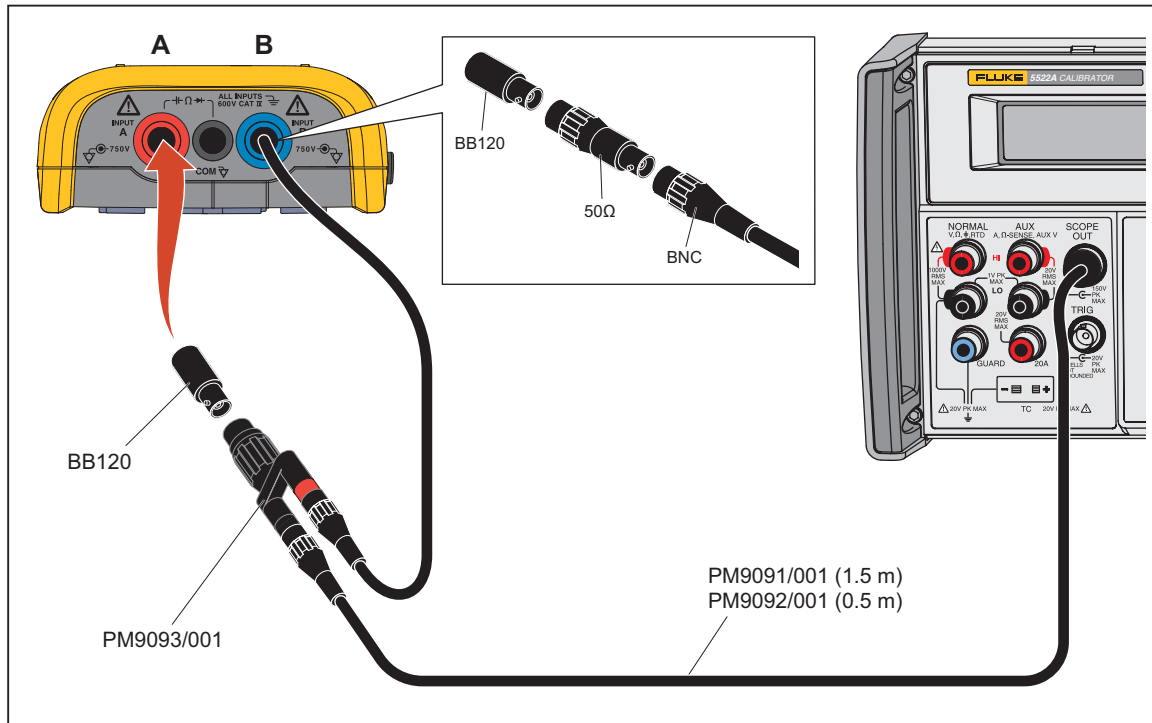

Figure 10. HF Gain Calibration Input Connections
2. Connect the Test Tool to the Calibrator. See Figure 10. Make sure you use a single 50 Ω terminator at the end of the connection.